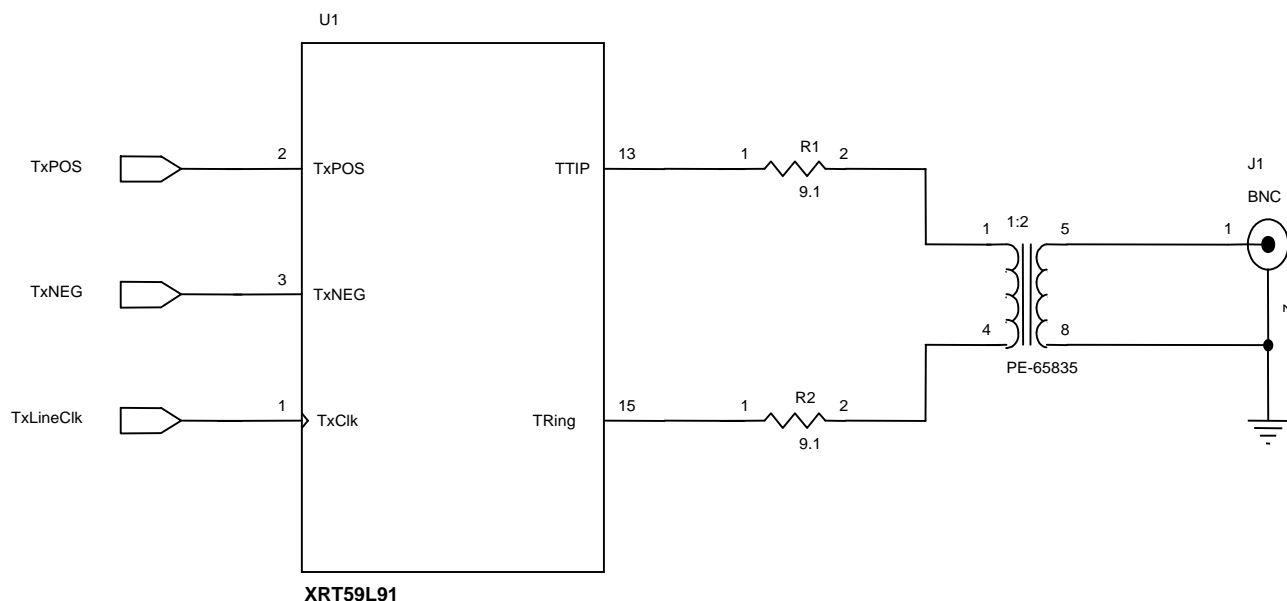

Figure 5. Illustration of how to interface the Transmit Section of the XRT59L91 device to the Line (for “75Ω” Applications)
In both applications (e.g., 75Ω or 120Ω), the user is advised to interface the Transmitter to the Line, in the manner as depicted in Figures 5 and 6, respectively.
1. Figures 5 and 6 indicate that for both “75Ω and “120Ω” applications, the user should connect a 9.1Ω resistor, in series, between the TTIP/TRing outputs and the transformers.
2. Figure 5 and 6 indicate that the user should a “1:2 STEP-UP” Transformer.